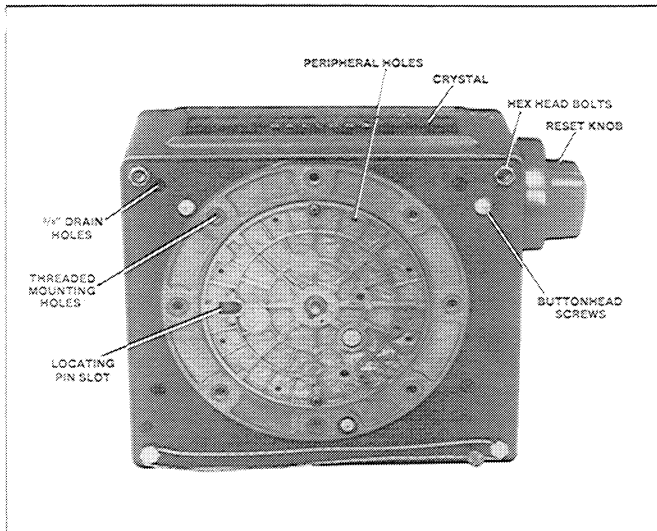

Figure 1.
1. Remove the top cover from register housing by removing seal wire and four hex head bolts located at the four corners of the bottom of register housing. See Figure 1.
4. Remove the three buttonhead screws (Figure 1) that secure the meter register to the housing. Remove the register.
6. Locate the four unused threaded mounting holes in the base mounting ring of housing (Figure 1). Mask these on the outside of housing with tape and fill housing holes from inside of housing with sealant (3).
7. Locate the four 3/8 inch drain holes at bottom of housing (Figure 1). Mask these on the outside of housing with tape. Fill holes from inside of housing with sealant (3).
8. Mask holes in the top of gearplate from inside of the register housing, except the locating pin slot. See Figure 1. Turn housing upside down and fill all open holes (except locating pin slot) with sealant. Do not seal rim of gearplate or shaft protrusions.
12. Turn register on its side (reset shaft up). Fill the locating pin slot (Figure 1) with sealant.